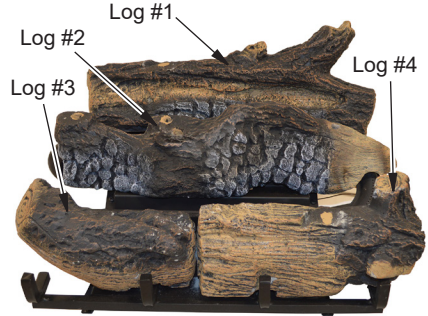

Figure 20 - Installing Logs #1 through #4
1. Insert log #1 into slots in rear log bracket on grate base as shown in Figure 20.
2. Insert log #2 into slots in middle grate bracket as shown in Figure 20.
3. Insert logs #3 and #4 into slots in front grate bracket as shown in Figure 20.